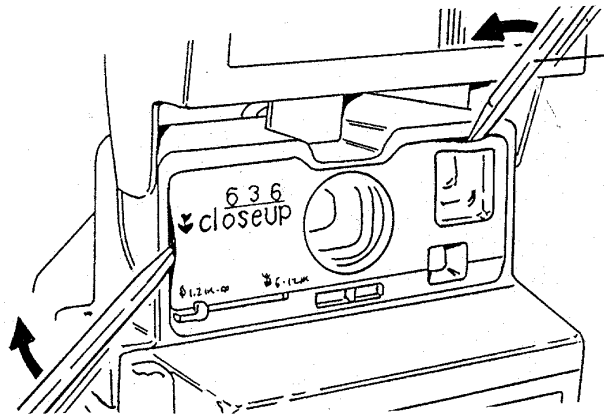

Fig. 3 Removing Front Plate/Lens Panel
- a. Remove the Front Plate/Lens Panel from the apron (Fig. 3).
- a. Remove the Front Plate/Lens Panel (see Fig. 3) and replace it with the modified Front Plate shown in Fig. 5 (NPI 600AM #92-30 has more information).